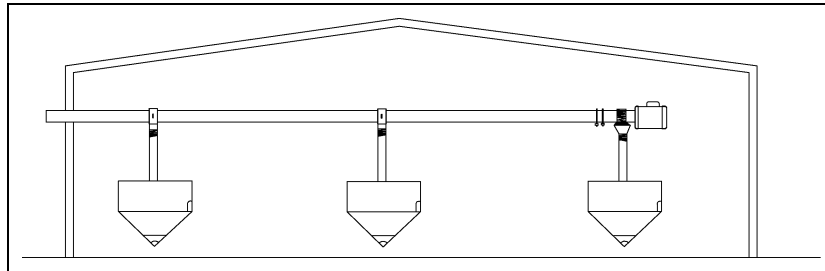

Figure 3A Poultry Application Layout
In poultry application, Flex-Flo Fill System conveys feed from bulk feed tank to hoppers inside the poultry building as shown in Figure 3A. Other feed systems (i.e. cycle plus, chain feeder etc.) take the feed from the hopper to the desired locations in the building. On this layout, hopper level switches may be placed in more than one (1) hopper to assure that no hopper empties before the control unit hopper requires feed. (All switches must be wired in parallel so that any one (1) switch can start the system.)